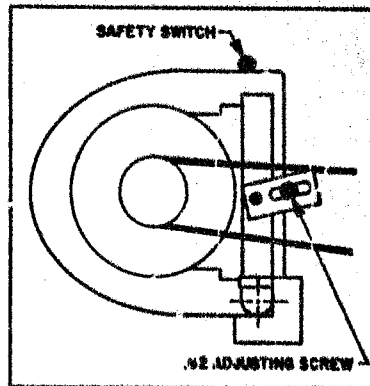

Figure 36C
2. Loosen the .62" screw in the slotted clamp (Figure 36C) allowing only the motor's weight to tighten the belt.
If you should decide to inspect the drive belt or the motor, and forget to shut off the electric current at the push-button station, the motor will stop as soon as the hinged cover at the rear of the machine is opened. The contact switch above the latch bracket (Figure 36C) compensates for such an oversight by automatically breaking the circuit. When again starting the machine, it will be necessary, of course, to latch the cover and push the starting button.